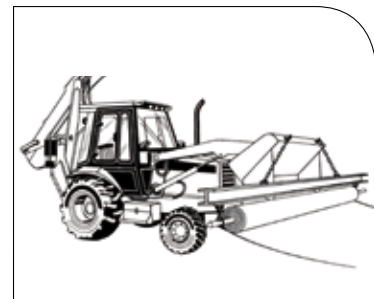

FIGURE 1 Spreader Bar Lifting Assembly
2.2 Lifting chains or straps appropriately rated should be used in combination with a spreader bar made from an I-beam as shown in Figure 1.